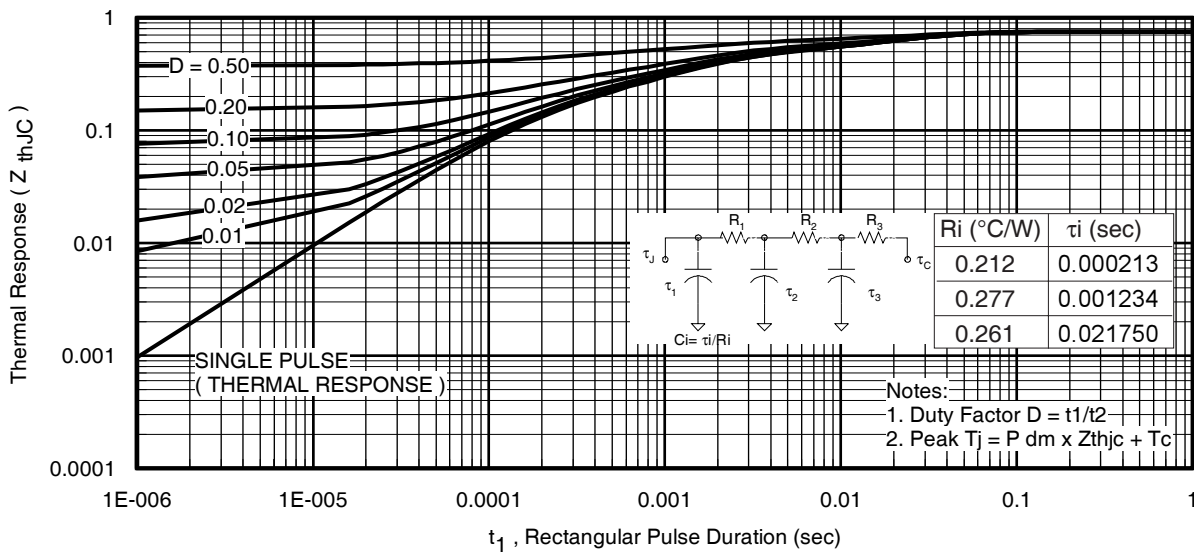
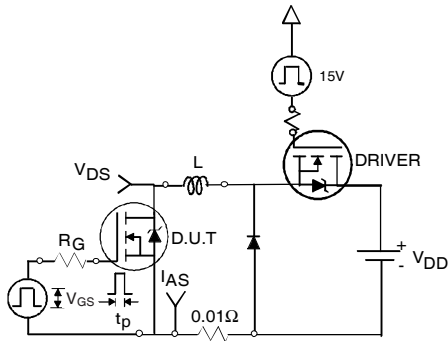

Fig 11. Maximum Effective Transient Thermal Impedance, Junction-to-Case
Fig 12a. Unclamped Inductive Test Circuit
- ① Repetitive rating; pulse width limited by max. junction temperature. (See fig. 11).
- ② Limited by T_{Jmax} , starting $T_J = 25^\circ\text{C}$, $L = 0.066\text{mH}$, $R_G = 25\Omega$, $I_{AS} = 75\text{A}$, $V_{GS} = 10\text{V}$. Part not recommended for use above this value.
- ③ Pulse width $\leq 1.0\text{ms}$; duty cycle $\leq 2\%$.
- ④ C_{oss} eff. is a fixed capacitance that gives the same charging time as C_{oss} while V_{DS} is rising from 0 to 80% V_{DSS} .
- ⑤ Limited by T_{Jmax} , see Fig.12a, 12b, 15, 16 for typical repetitive avalanche performance.
- ⑥ This value determined from sample failure population. 100% tested to this value in production.
- ⑦ This is only applied to TO-220AB package.
- ⑧ When mounted on 1" square PCB (FR-4 or G-10 Material). For recommended footprint and soldering techniques refer to application note #AN-994.
- ⑨ TO-220 device will have an R_{th} value of 0.65°C/W .
- ⑩ Calculated continuous current based on maximum allowable junction temperature. Bond wire current limit is 160A. Note that current limitations arising from heating of the device leads may occur with some lead mounting arrangements.
3. Equation below based on circuit and waveforms shown in Figures 12a, 12b.
$Z_{thJC}(D, t_{av})$ = Transient thermal resistance, see figure 11)